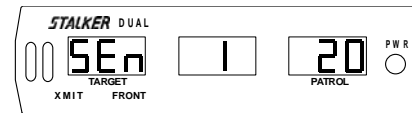
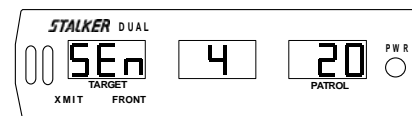

Fig 17
Fig 20
The range (or sensitivity) of **STALKER DUAL** is adjusted by pressing the **SEn** key. This key cycles through the four (4) sensitivity levels; **SEn 1**, **SEn 2**, **SEn 3**, and **SEn 4** (Fig 17 - Fig 20, respectively). In each case, the center display refers to the current sensitivity setting. The shortest range is **SEn 1** (Fig 17), and the longest range is **SEn 4** (Fig 20). The range (or sensitivity) must be set for same lane moving mode and opposite lane moving/stationary mode separately. While in each mode, (same lane and opposite lane), indicated by the presence or absence of the **SAME** icon, set each sensitivity as described above.